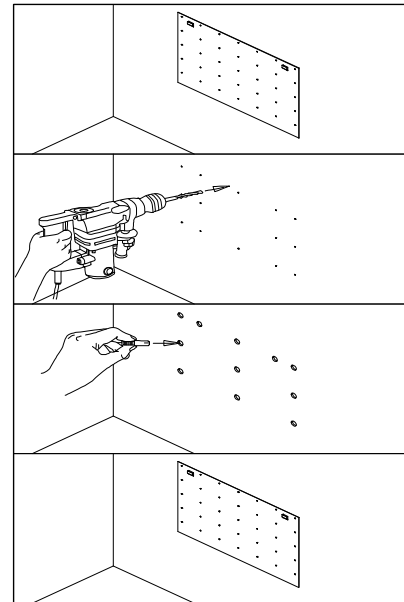

Fig 3
5. Fasten the hanger to the wall. See Figure 3.